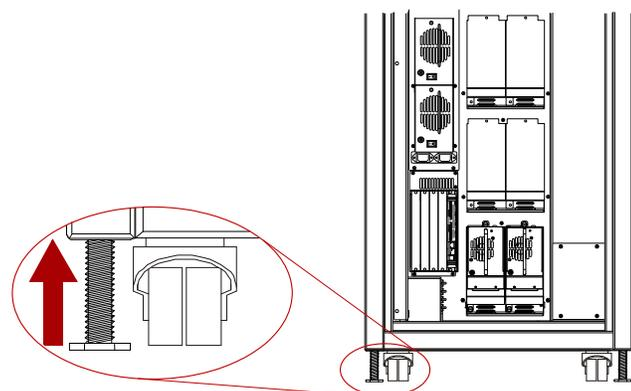

Figure 2-6: NEO 8000 Casters and Leveling Legs
- c. Use the adjustable wrench to loosen and raise the two leveling legs (Figure 2-6).
- b. Use the adjustable wrench to loosen and raise the two **leveling legs** (Figure 2-6).